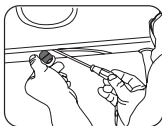

FIG 2
2. Use a screw driver to fix the first screw, but do not tighten it yet **(FIG 2)**.